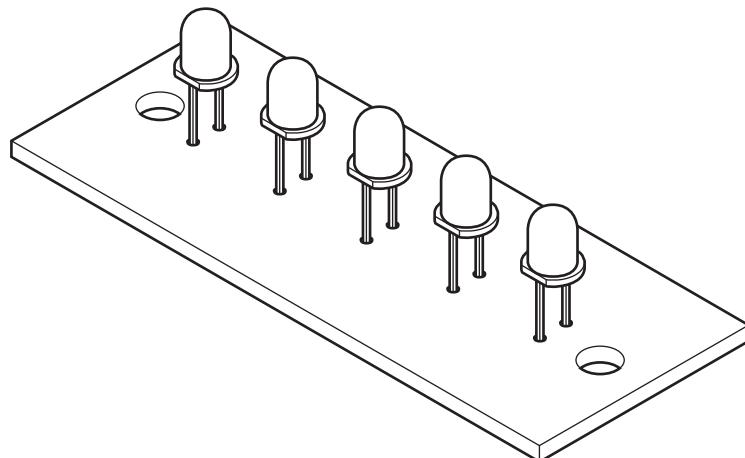

Fig. 10
- (c) Fig. 10 shows five LEDs soldered in position at a set height above a PCB. It can be difficult to solder more than one LED at a set height from a PCB.